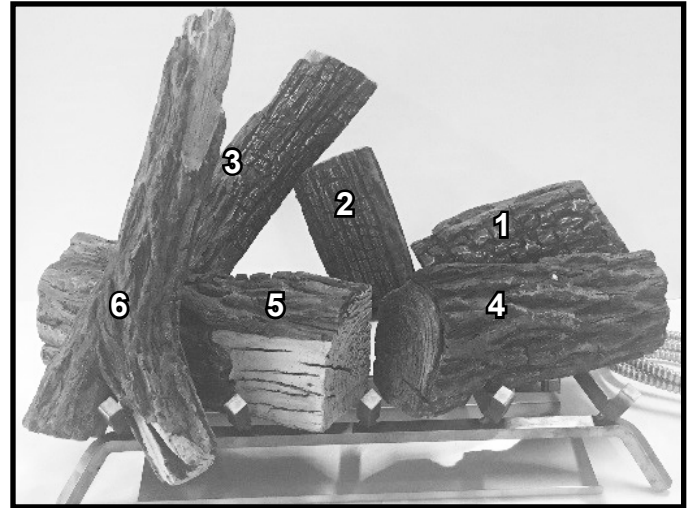

Figure 7. Install Log #6
7. Log #6 has a hole that is located on the back and will engage with the pin on Log #5. The “V” or “fork” of the log will rest on the left side grate tine as shown in Figure 7.